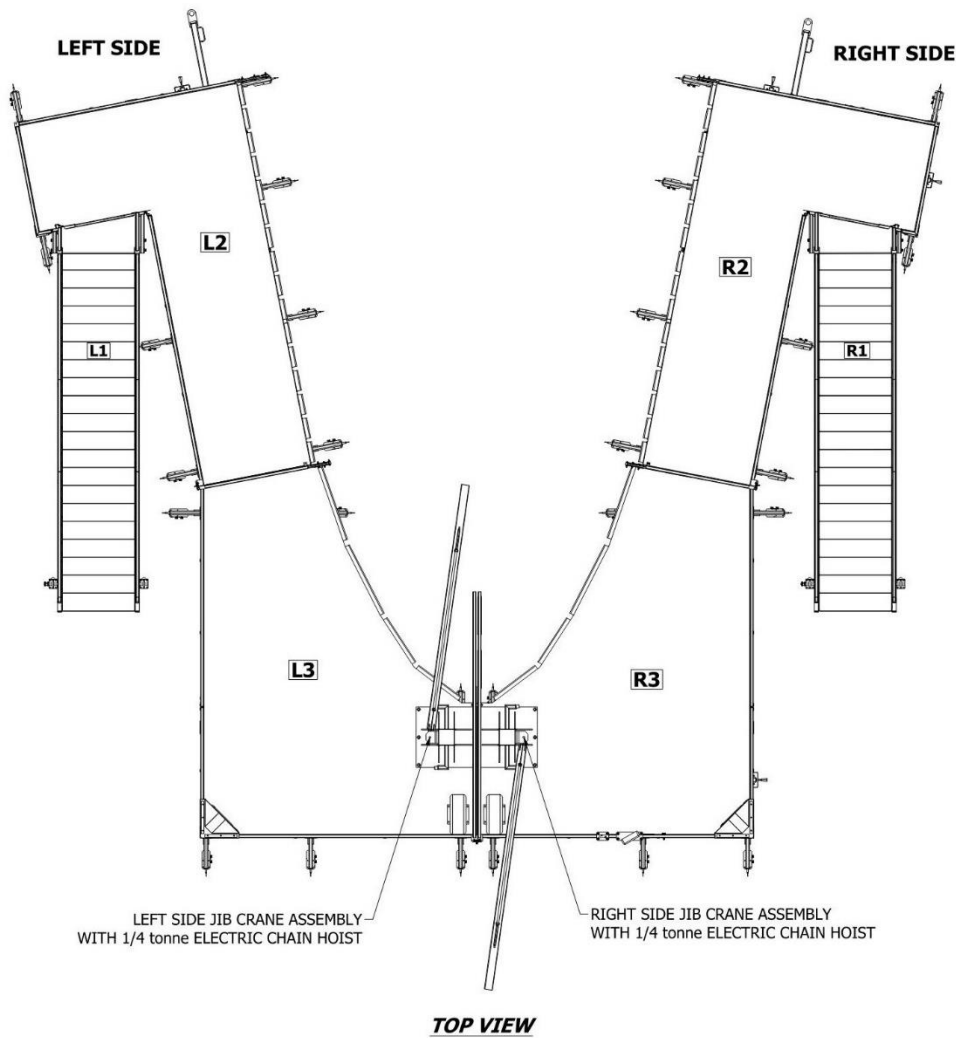

Figure 2
- See **Figure 2**
- When assembly is complete, the RIGHT SIDE will consist of 4 main components (see Figure 2)
- When assembly is complete, the LEFT SIDE will consist of 4 main components (see Figure 2)
ONLY operate HOIST if RIGHT SIDE section or LEFT SIDE section are fully assembled. (See Figure 2)